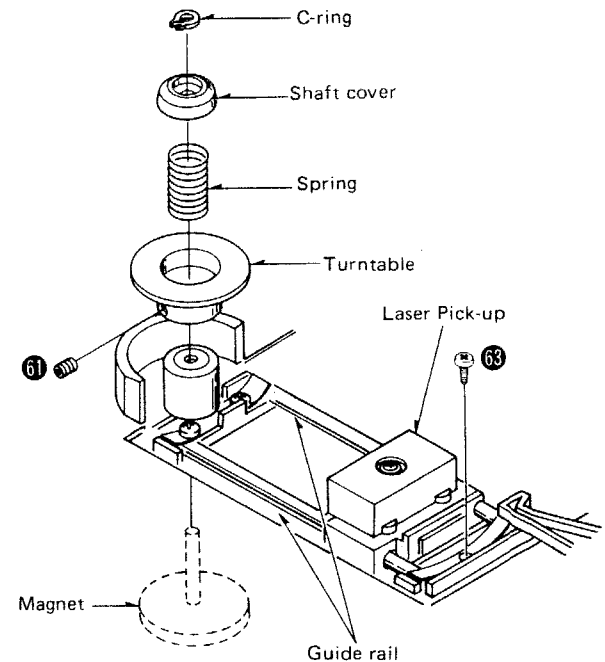

Fig. 18
3. Remove the C ring which fastens the magnet shaft of spindle motor. [Fig. 18]
4. Remove the screw [Fig. 18: 61] by use of a hexagonal wrench, then the turntable can be removed.
5. Remove the guide rail retainer setscrew [Fig. 18: 63] and pull out the laser pickup from the two guide rails.